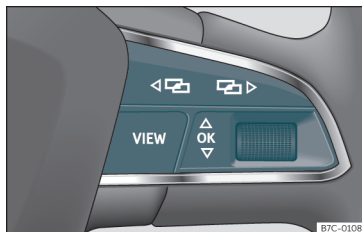

Fig. 105 Right side of multifunction steering wheel: buttons to the menus and informative indications on the instrument panel.
As long as a priority 1 >>> page 100 warning is active, it will not be possible to access any menu. Some warnings can be confirmed and hidden with the button **OK** of the multifunction steering wheel >>> **Fig. 105**.
- If a message or vehicle symbol is displayed, press the button **OK** >>> **Fig. 105**; if necessary, several times.
- To change menus, use buttons **←** or **→** >>> **Fig. 105**.
- To open the menu or the information displayed, press the button **OK** >>> **Fig. 105** or
- In the menu displayed, turn the right thumbwheel of the multifunction steering wheel >>> **Fig. 105** until the desired option of the menu is highlighted. The option appears framed.
- Press the button **OK** >>> **Fig. 105** to make the required modifications. A mark indicates that the system or function is activated.
Press the button **←** or **→** >>> **Fig. 105**.